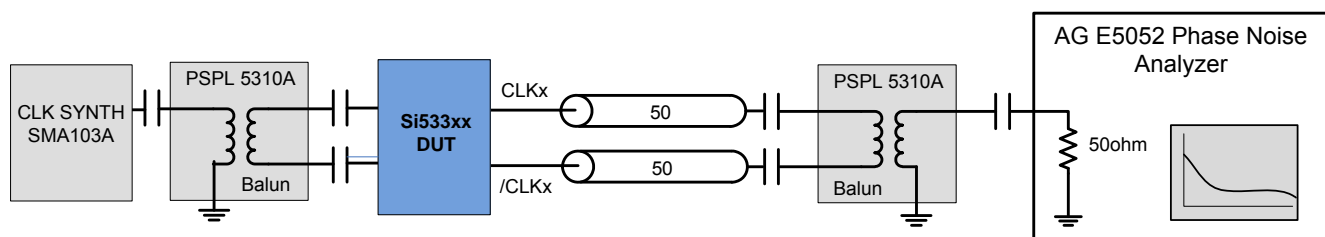

Figure 1. Differential Measurement Method Using a Balun
3. Measured differentially using a balun at the phase noise analyzer input. See Figure 1.
3. Measured differentially using a balun at the phase noise analyzer input (see Figure 1). LVC MOS jitter is measured single-ended.